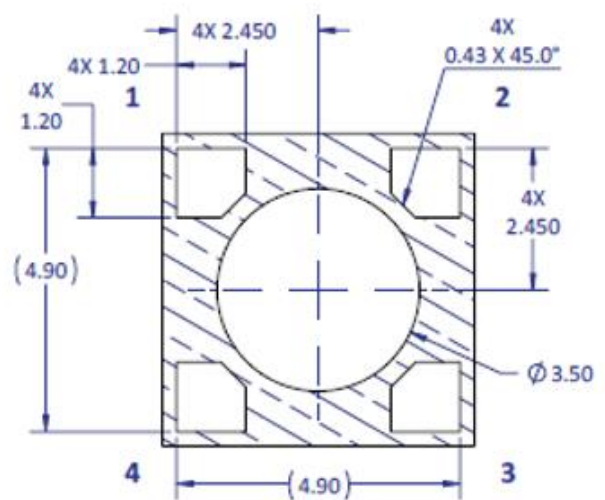

Figure 2b: Recommended solder mask opening for anode, cathode, and thermal pad for non-pedestal and pedestal design.
4. This emitter is compatible with all LZ1 MCPCBs provided that the MCPCB design follows the recommended solder mask layout (Figure 2b).
Note for Figure 2b: